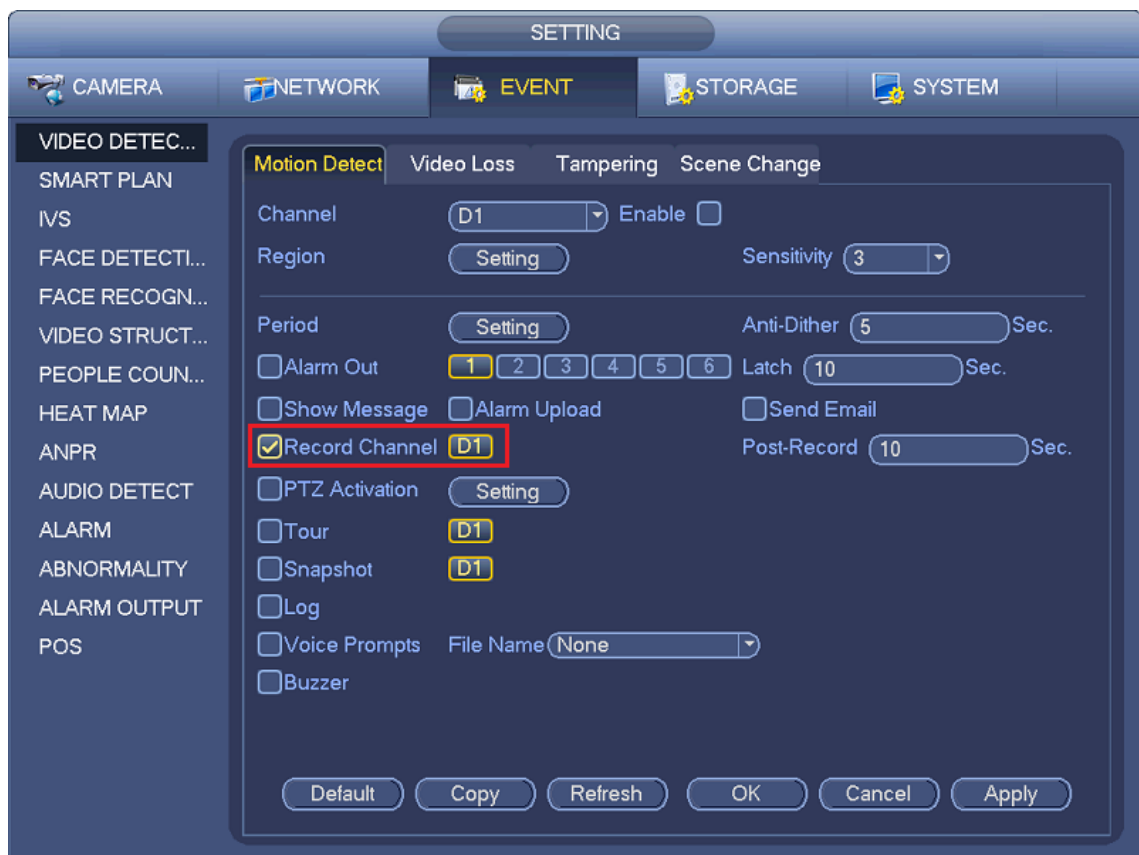

Figure 4-26
- When the record type is MD (motion detect), alarm, MD&Alarm, IVS and POS, please enable the channel record function when corresponding alarm occurs. For example, when the alarm type is MD, from main menu>Setting>Event>Video Detect>Motion Detect, please select the record channel and enable record function. See Figure 4-26.